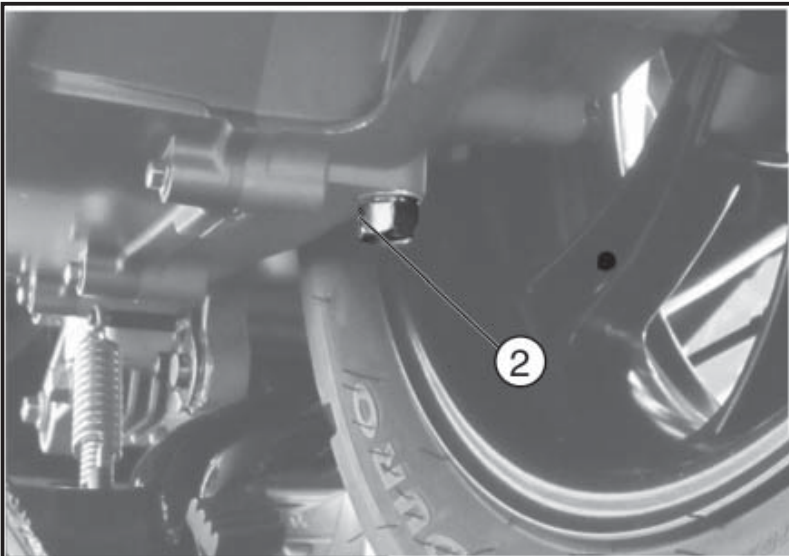

Fig. 02
- Unscrew the drain plug «2 - Fig. 02», store the washer away and drain all oil.
- Refit and tighten the drain plug «2 - Fig. 02» and using a syringe fill up to the correct level with the recommended oil type.